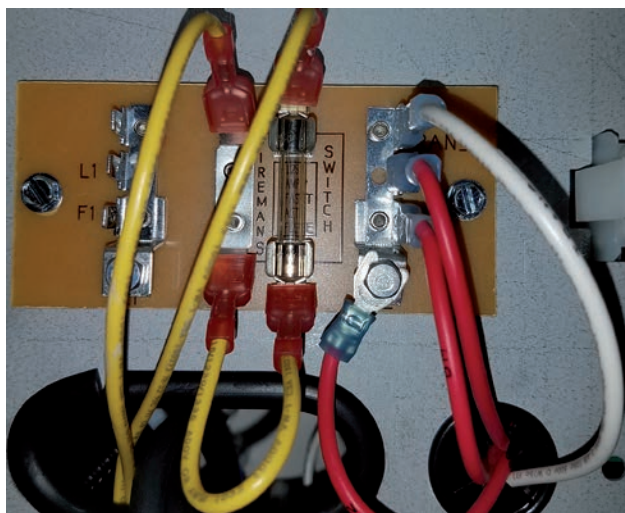

Figure 31.
3. Locate the **Fireman Switch jumper wire**; remove the wire. See Figure 31 below.
4. Connect the **Remote Control Dry Contact wires**. See Figure 31 below.
TIME CLOCK/FIREMAN'S SWITCH (See Figure 31 above):